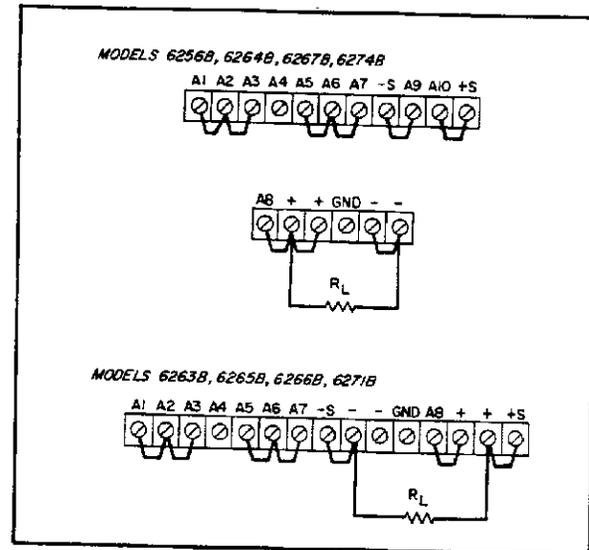
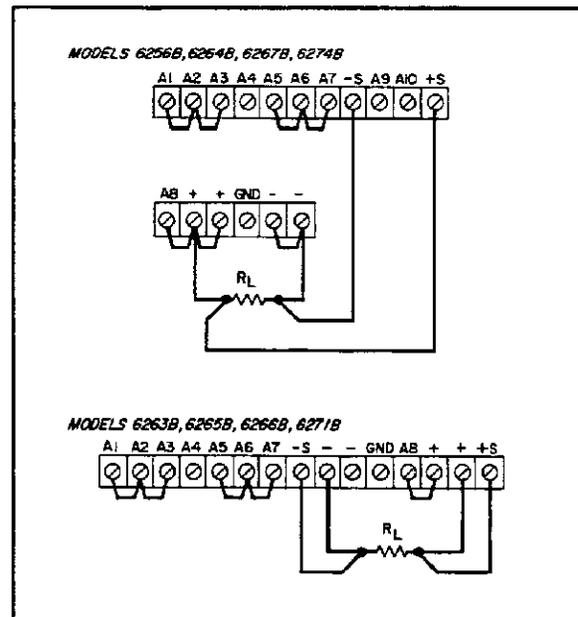

Figure 3-2. Normal Strapping Patterns
Figure 3-3. Remote Sensing
a. Turn CURRENT controls ⑦ and OVERVOLTAGE ADJUST potentiometer ⑤ fully clockwise and check that rear panel straps are connected as shown in Figure 3-2, but do not connect load  $R_L$ .
terminals (see Figure 3-2), and turn it back on.
3-7 This power supply was shipped with the proper rear panel strapping connections made for constant-voltage/constant-current operation with local sensing and local programming. This strapping pattern is illustrated in Figure 3-2. By means of the front panel voltage and current controls, the operator selects either a constant-voltage or a constant-current output. Whether the supply functions in the constant-voltage or the constant-current mode depends on the settings of the voltage and current controls and on the resistance of the output load. For values of load resistance greater than a critical crossover value equal to the voltage setting divided by the current setting, the supply
3-26 Because of the unavoidable voltage drop developed in the load leads, the normal strapping pattern shown in Figure 3-2 will not provide the best possible voltage regulation at the load. If, for example, one were to use 8-gauge wire to connect a load that is located only 5 feet from a Model 6256B 10V 20A supply, the regulation measured at the load would be about 120 millivolts as compared to the 1.2 millivolt regulation that could be measured at the supply's output terminals. Thus even relatively short load leads can cause a considerable degradation of the supply's performance. The remote sensing connections shown in Figure 3-3 improve the voltage regulation at the load by monitoring the voltage there instead of at the supply's output terminals. (The advantages of remote sensing apply only during constant voltage operation. This is because in the constant current mode the resistance of the load leads has no adverse effect on a supply's performance.)
3-27 As can be seen in Figure 3-3, remote sensing involves removing the (+S) and (-S) jumpers from the rear panel terminals, connecting the load leads normally, and using a separate pair of wires to connect the (+S) and (-S) sensing terminals to the load. The following paragraphs discuss some precautions that should be observed when making a remote sensing installation.
*The (+S) jumper is the one that links the (+S) terminal to the (+OUT) or (A10) terminal when the supply's terminals are strapped for normal operation as shown in Figure 3-2. The (-S) jumper is the one that links the (-S) terminal to the (-OUT) or (A9) terminal.*